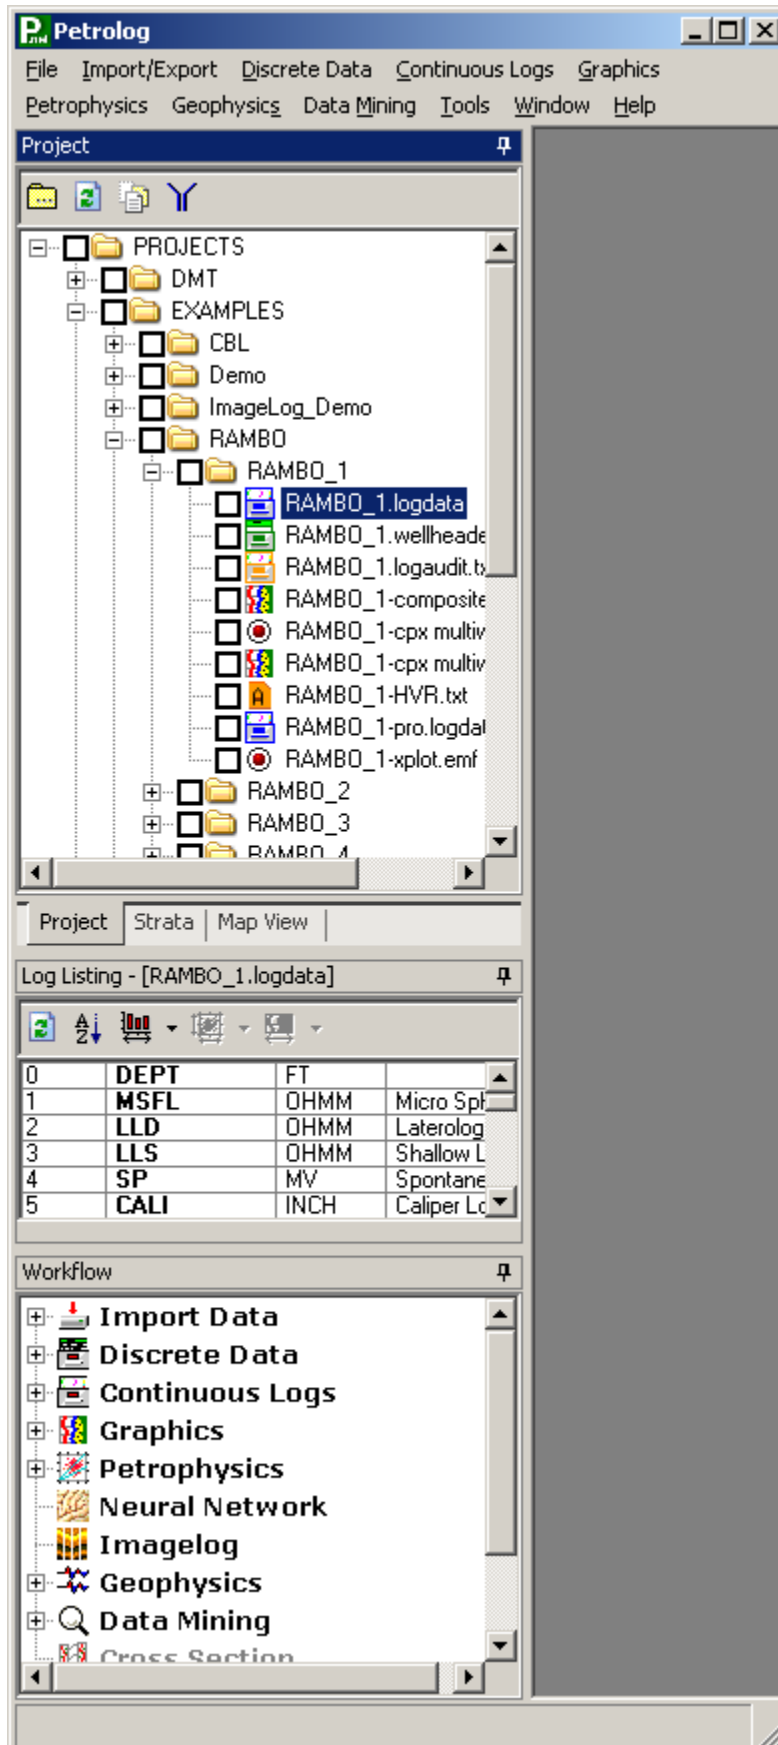

Figure 1: Project Directory Layout and Active Well Selection
6. See Project Explorer and use  **Browse Project** to set your default start point. As shown in figure 1, preferably set the project root at the highest "level" that you will be working in (here all directories under projects will be opened)